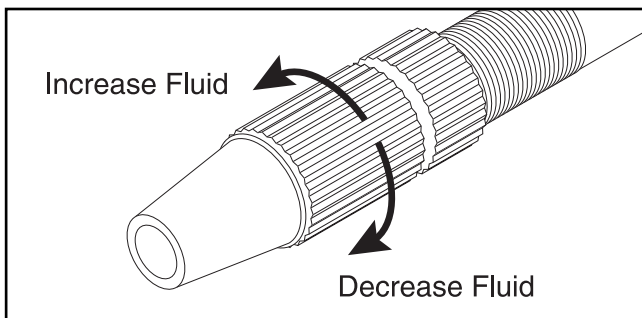

Figure 3. Adjusting flow.
5. Adjust the nozzle as shown in **Figure 3** until the amount of fluid is correct.